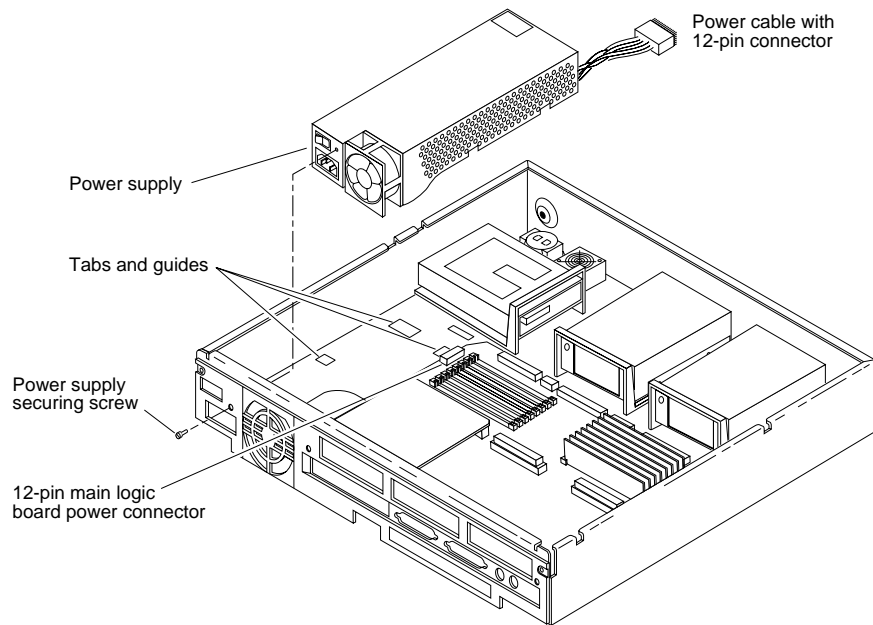

Figure 4-9 Removing and Replacing the Power Supply
The power supply is a self-contained metal assembly located just behind the diskette drive (see Figure 4-9). The recess in the bottom of the chassis is for the fan that is built into the power supply.
5. **Remove the screw from the back panel (Figure 4-9).**
1. **Align the new power supply correctly as shown in Figure 4-9 with the tabs and guides in the bottom of the chassis.**
The connector is keyed so that the power cable will fit only one way (see Figure 4-9).
4. **Secure the power supply to the chassis by installing the screw through the rear panel of the chassis (see Figure 4-9).**